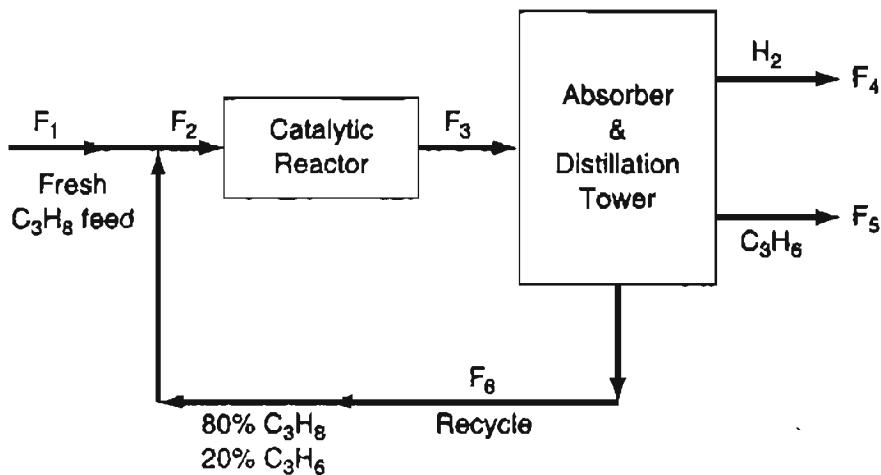

Figure P12.21
- **12.21 The process shown in Figure P12.21 is the dehydrogenation of propane (C_3H_8) to propylene (C_3H_6) according to the reaction